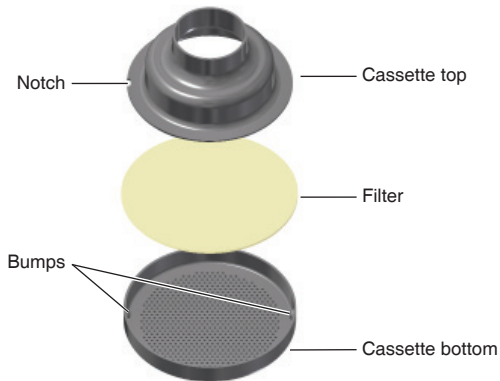

Figure 3. Exploded Cassette
1. To open the cassette, twist the cassette top in the cassette bottom until the notch in the top (*Figure 3*) is aligned with one of the two bumps on the cassette bottom; tilt the notched side up and lift.
3. Align the notch in the cassette top with one of the two bumps on the cassette bottom and insert the opposite edge of the top under the opposite bump in the cassette bottom. Set the top into the bottom and twist to secure the cassette (*Figure 3*).